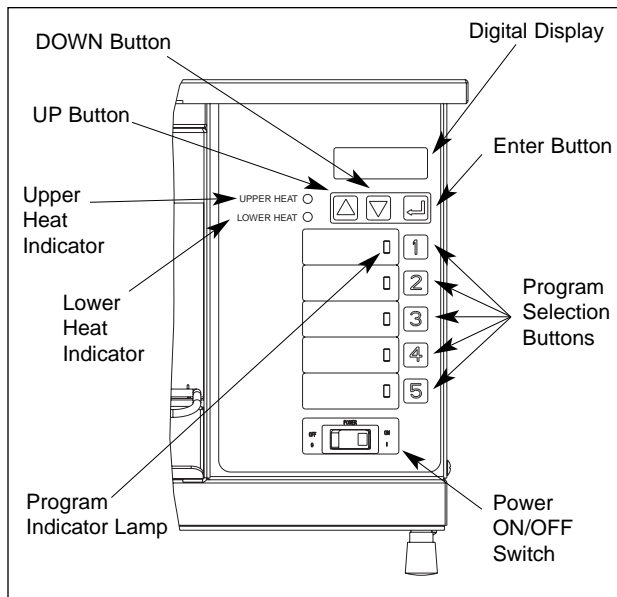

Figure 10. Control Panel
2. Turn the Power Switch to the ON position. (See Figure 10). The unit will make an audible beep, automatically go into Preheat mode and the display will indicate **PREH**. If the unit displays OFF, press one of the five product selection keys to put the unit into Preheat mode.